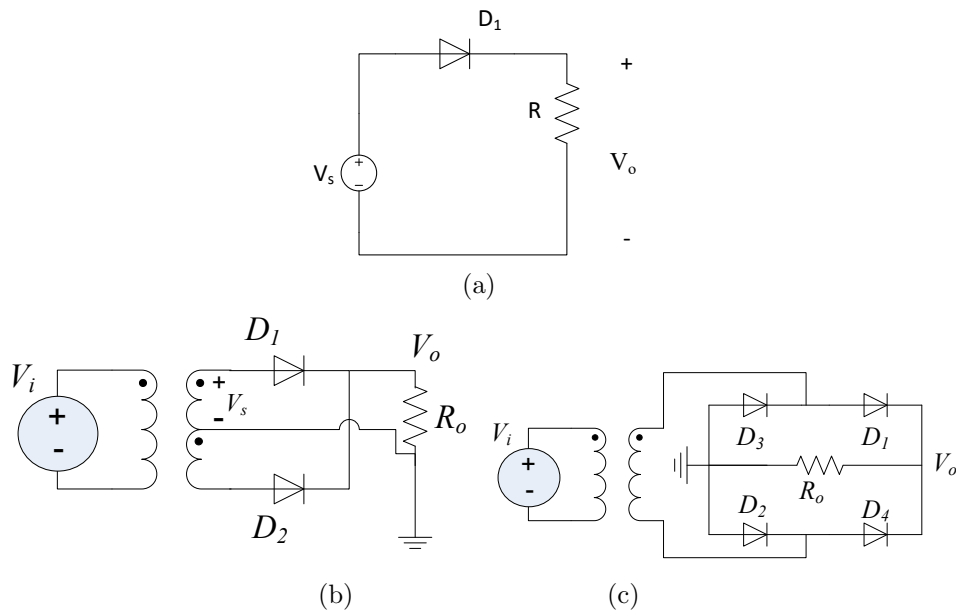

Figure 3.1: (a) a half-wave diode rectifier circuit; (b) a full-wave rectifier with a center-tapped transformer; (c) a full-wave bridge rectifier.
It is assumed that the built-in voltage of diode is V_γ in Fig. 3.1, assume V_i is known, please find the expressions of V_o in Fig. 3.1(a); V_o, V_{D_1}, V_{D_2} in Fig. 3.1(b); V_o, V_{D_1}, V_{D_4} in Fig. 3.1(c) theoretically.
1. Construct the circuit of Fig.3.1(b) on a breadboard using the diode (1N4148) and $R = 1k\Omega$, let V_i be a sinusoidal signal with 100Hz frequency and 3V peak
1. Construct the circuit of Fig.3.1(c) on a breadboard using the diode (1N4148) and $R = 1k\Omega$, let V_i be a sinusoidal signal with 100Hz frequency and 3V peak